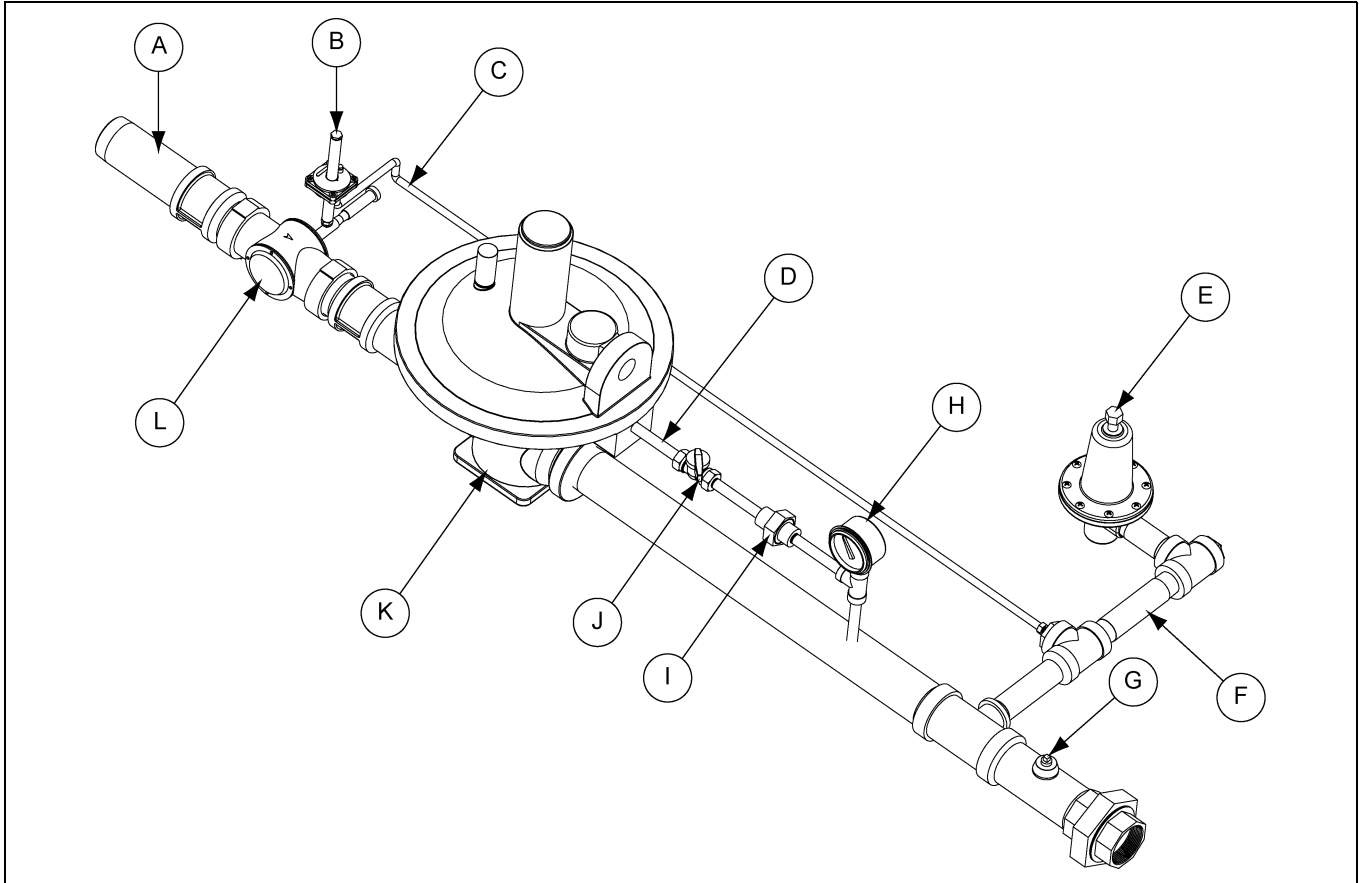

Figure 3C
2. Pressure after regulator read at sensing line gauge. (See Figure 3C on Page 27.)
4. Relief valve. (See Figure 3C on Page 27.)
5. OPSO valve. (See Figure 3C on Page 27.)